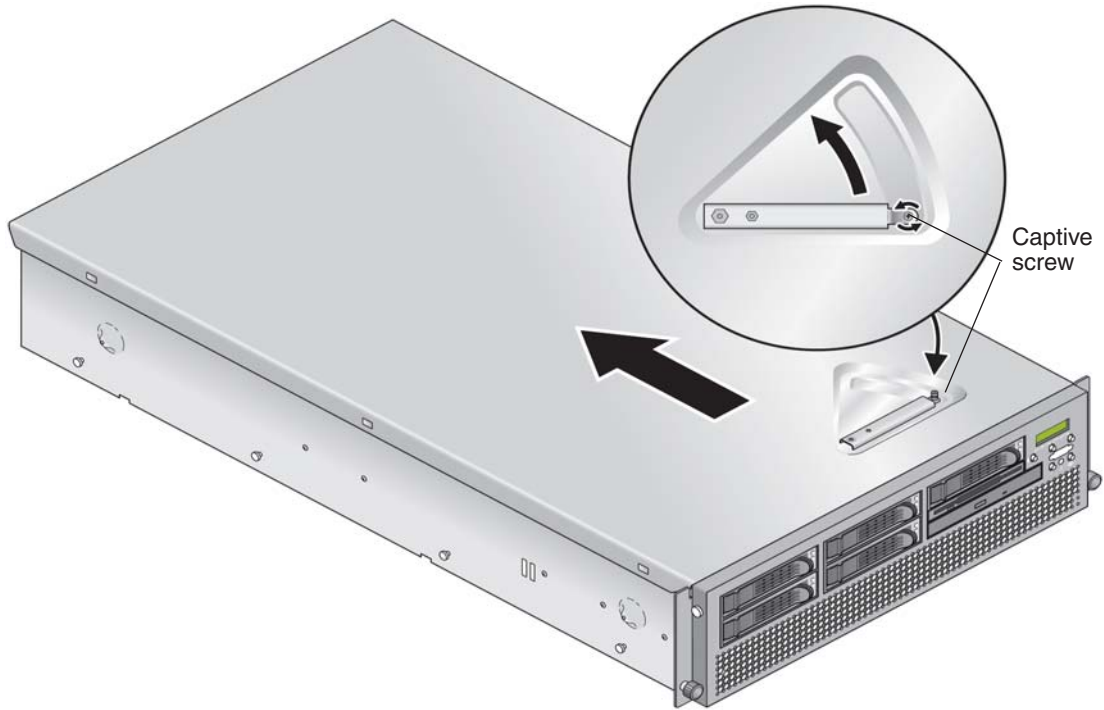

FIGURE 5-1 Removing the Cover
7. Loosen the captive screw on the cover latch, then rotate the latch toward the system rear to push back the cover (see FIGURE 5-1).